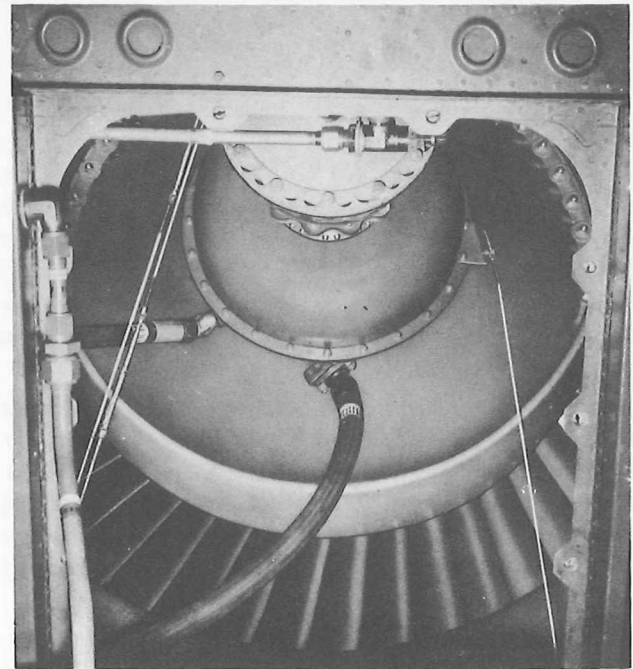

Figure 5-38. Hydro-Mechanical Clutch and Fan Assembly Installed
**5-319. DESCRIPTION.** (See figure 5-38.) The clutch and fan assembly consists of a hydro-mechanical clutch assembly and a fan assembly. The hydro-mechanical clutch makes it possible to start and operate the engine at any speed without engaging the rotors, permits smooth engagement of engine torque to the transmission system through a fluid coupling, provides a positive mechanical coupling of the engine to the transmission system, allows free wheeling of the rotors when the helicopter is in autorotation and allows the rotors to be disengaged and stopped without stopping the engine. The fan assembly provides cooling air for the engine and ram air for the air induction system and acts as a flywheel for the engine. The fan assembly is splined to the engine propeller shaft and secured in place on tapered cones by the engine shaft nut and a lockpin assembly. The main components of the fan assembly are the splined hub, fan disc and fan blades. The fluid coupling, consisting of a vaned